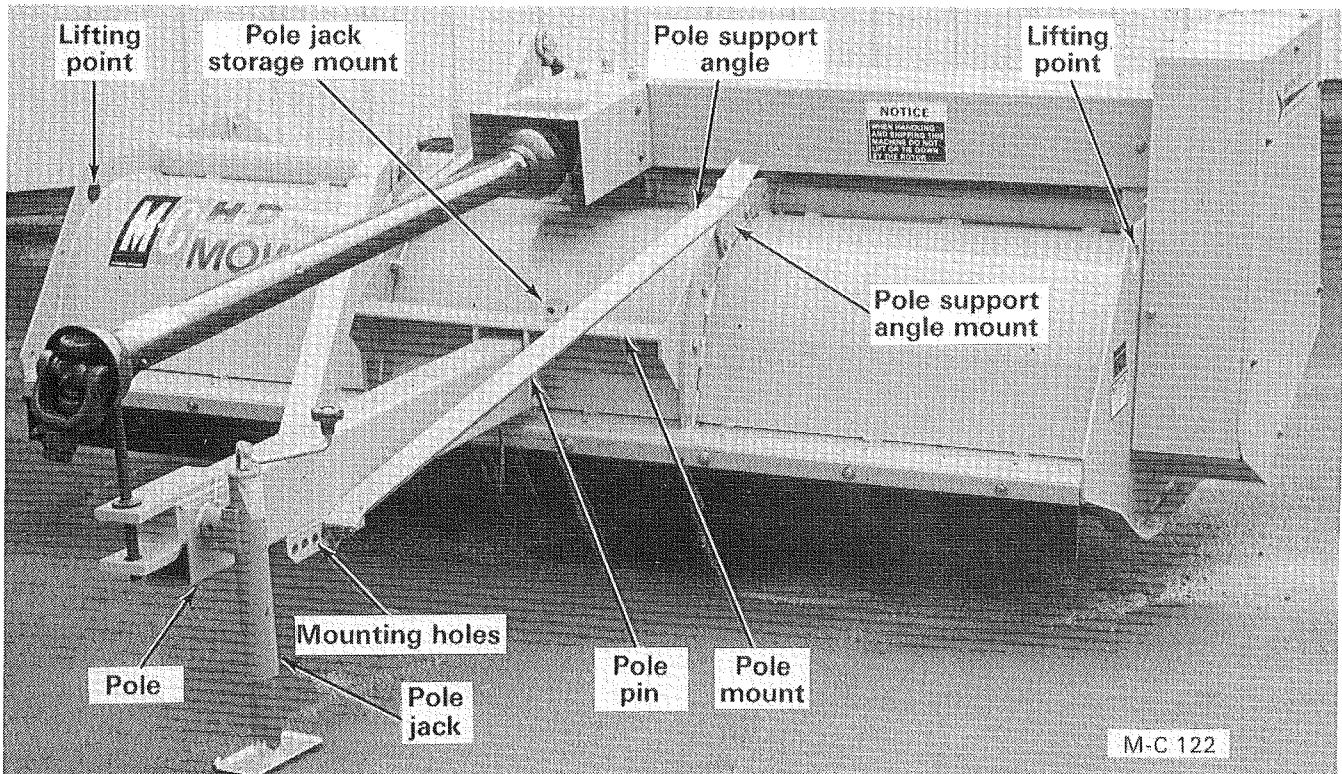

Figure 6
1. Attach the pole mount to the two lower holes on the front wrapper ribs with  $\frac{5}{8}$ -11 x 2" (Grade 5) hex-head capscrews, lockwashers and hex-nuts, see Figure 6.
2. Attach the pole support angle mounts to the outside of the front wrapper ribs (use the second and third hole from the top) with  $\frac{5}{8}$ -11 x 2" (Grade 5) hex-head capscrews, lockwashers and hex-nuts, see Figure 6. Keep the capscrew heads to the outside.
3. Attach a sling to the lifting points shown in Figure 6. Lift the front of the mower with a chain hoist just high enough to install the pole. Install the pole and secure with the pole pin.